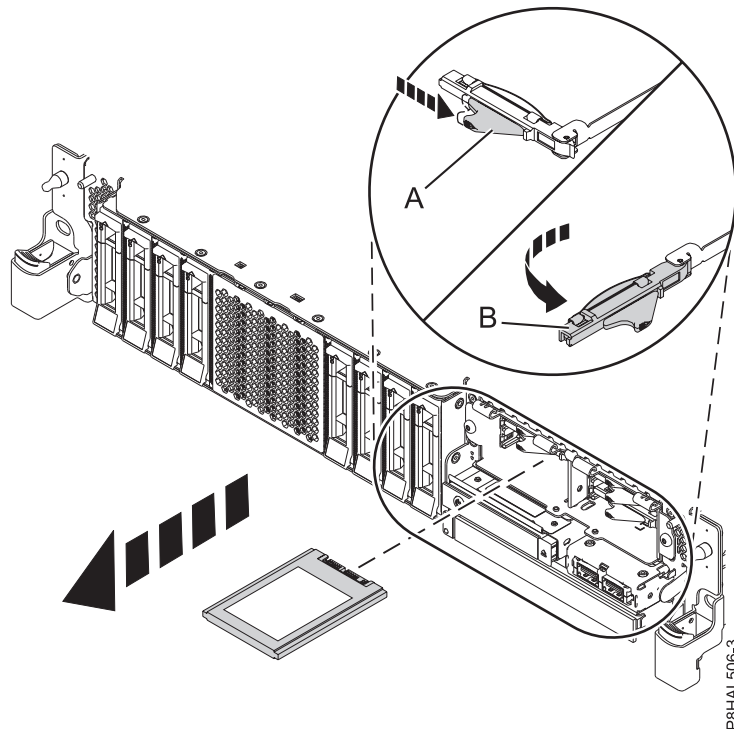

Figure 92. Removing an SSD from an expanded function system
11. When the identify LED flashes, unlock the drive handle **(B)** by pushing the handle latch **(A)** in the direction that is shown and pulling the drive handle **(B)** out toward you, as shown in Figure 92 on page 91. If the handle is not all the way out, the solid-state drive cannot slide out of the system.